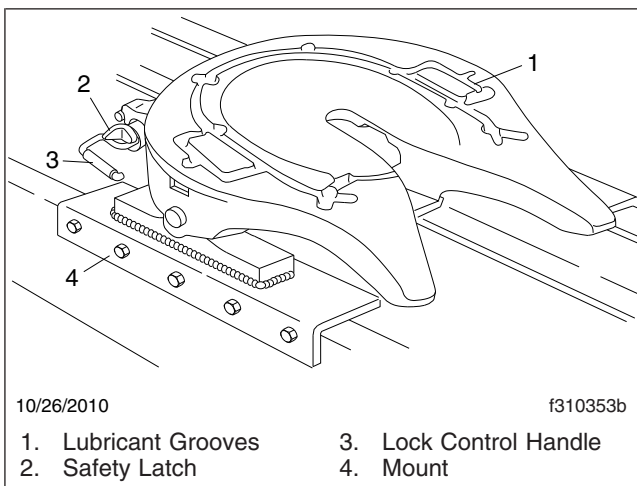

Fig. 5, Simplex Series Fifth Wheel
4. When the wheel is locked, the safety latch must swing free and fall freely into position. See **Fig. 5**.